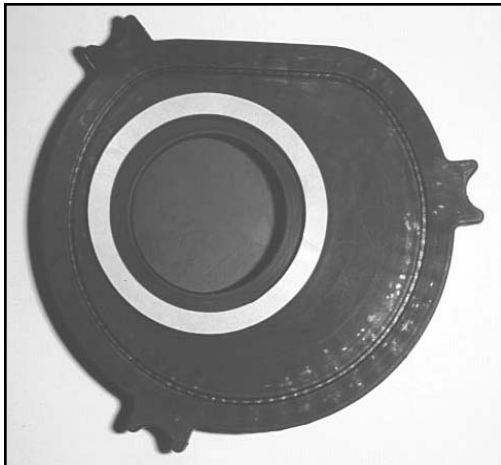

Fig. 1
2. Apply the supplied gasket to the base of the K&N Filtercharger®. (Fig. 1)